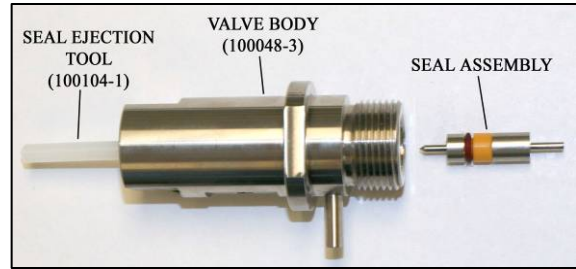

Figure 4
9. Place the Seal Ejection Tool (100104-1) against the Poppet tip and push out the Poppet and Seal assembly. Discard the Poppet and Seal assembly. **See Figure 4.**